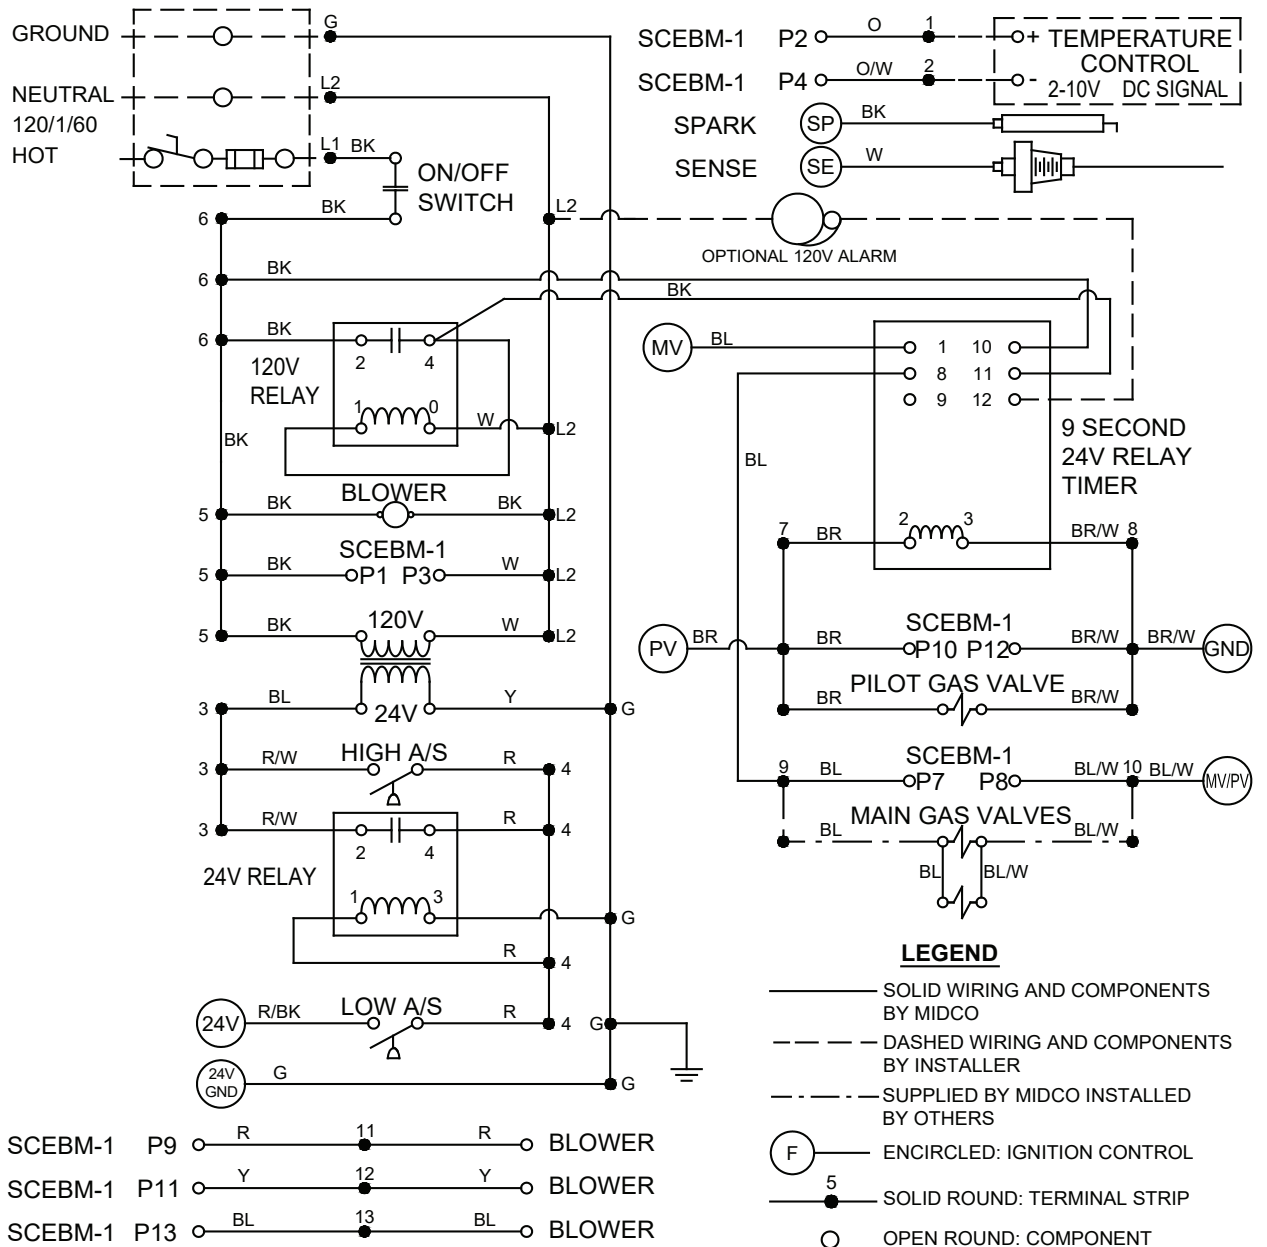

Figure 4E:
L1 (Black), L2 (White), and G (Green). (refer to Figures 4E)
positive (+) and negative (-) (refer to Figures 4E)
- L (Blue) N (Blue/White) and G (Green). (refer to Figures 4E)